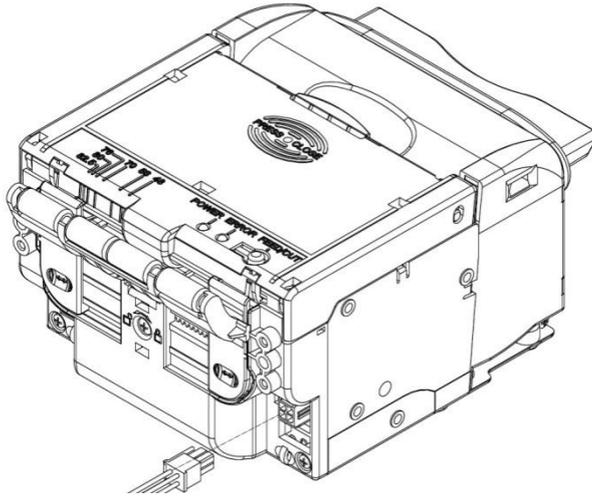

Fig. 4.5-2 Connect the serial connecting cable to the printer
- 2) Insert one end of serial connecting cable into corresponding socket (only for printer configured with serial interface) as shown in the Fig. 4.5-2;